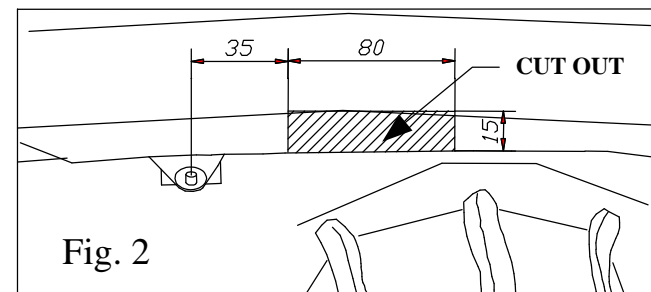

Fig. 2
2. In lower part of the bumper cut out fragment according to figure 2.
4. From outsides of the chassis members are original holes under technical plaster. Remove plaster and uncover original holes. On this holes put fish-plates pos. 12 and through holes put bolts M10x110mm (pos. 9)
5. From inside put side brackets (pos. 4 and 5) on protruding bolt and fix loosely.
6. Between mounted brackets put main bar of the towing hitch (pos. 1) and fix using bolts M12x40mm (pos. 8), use distance fish-plates (pos. 6 and 7)
7. Fix body of the automat and the socket plate (pos. 3) using bolts M12x25mm from accessories. Place tow-ball according to supplied instruction.